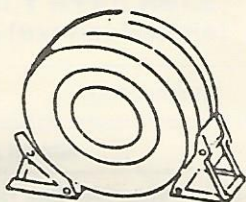

FIG. 2
- Chock the vehicle's wheels (See Fig. 2) for lifting stability.